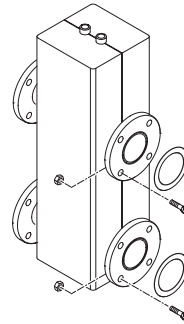

Fig. 8
1.11 HYDRAULISCHE COMPENSATOR COD. 8101552 VOOR "MURELLE EQUIPE 220-330" (apart te vragen) (fig. 8)